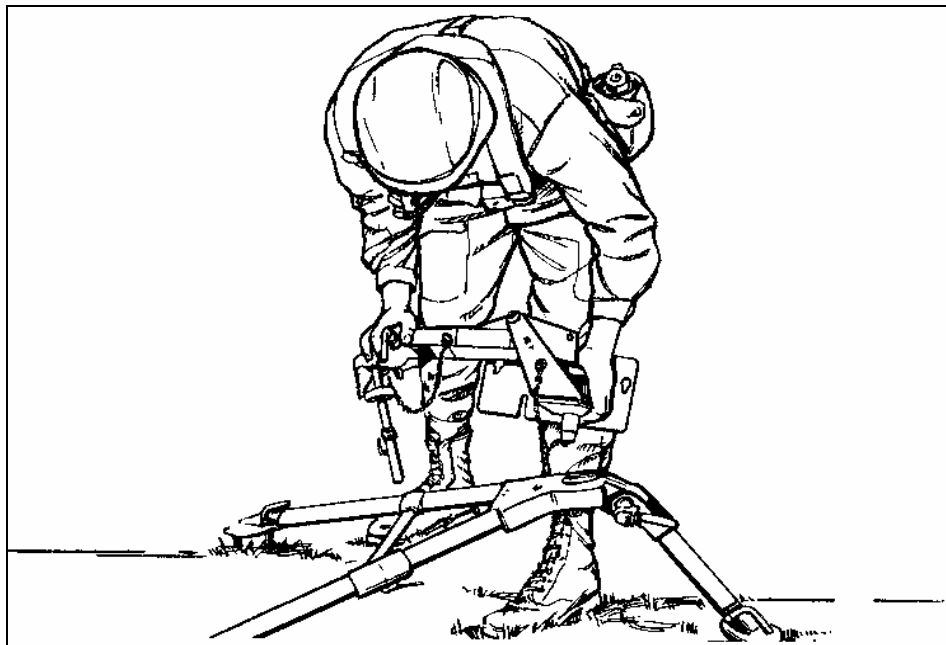

Figure H-3. Mounting the MK 19 mount on the tripod.
- (3) Stamps each leg into the ground and secures the gun cradle to the tripod by using the pintle lock release cam (Figure H-3).